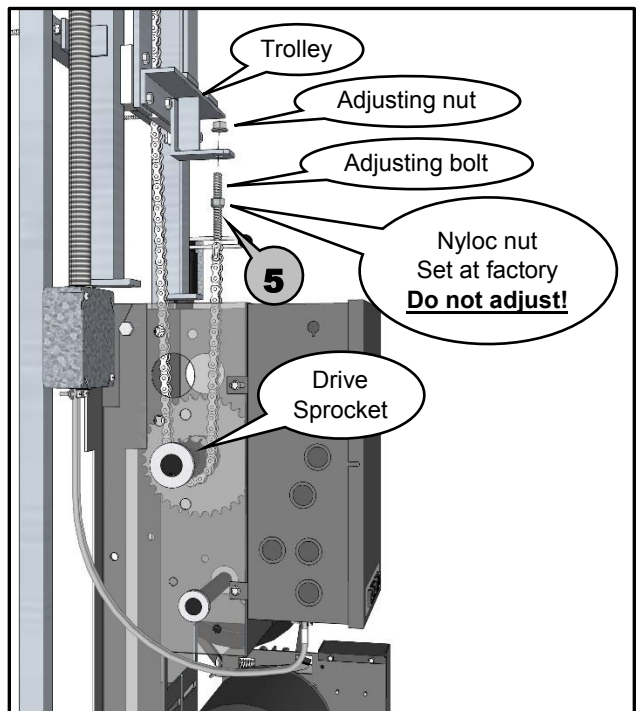

Figure 8
- 5** The other end of the chain should hang down behind the trolley and be placed around the drive sprocket of the motor. Then insert the threaded adjusting bolt, on the end of the chain, into the hole on the bottom of the trolley, where the adjusting nut is tied on, and use the adjusting nut to secure the adjusting bolt to the trolley. Use a blade screwdriver or needle nose pliers to hold chain from twisting and tighten adjusting nut until Nyloc nut is tightly seated against trolley. **Do not adjust Nyloc!** (see Figure 8)
- 7 Cut black plastic tie, next to the drive sprocket, off. (see Page 12, Figure 8, for sprocket location)